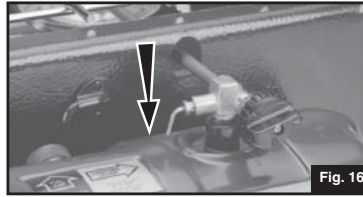

Fig. 16
- Wait one full minute then turn LIGHTING LEVER down. (Fig. 16)